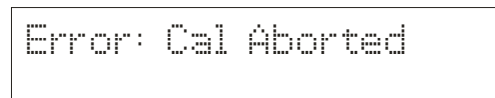

Figure 23
**NOTE:** In the custom pH buffer calibration mode you must perform at least a 2-point calibration, if you press **EXIT** before you calibrate at 2 points the screen will flash *Error: Cal Aborted* (See Figure 23) and will return to the pH measurement mode without confirming any calibration points.
To exit from pH calibration mode at any point without confirming calibration, DO NOT press **ENTER** in steps 3 or 5. Press **EXIT**. If **EXIT** is pressed before a 2-point calibration is performed the upper display flashes *Error: Cal Aborted*. See **Figure 23**.